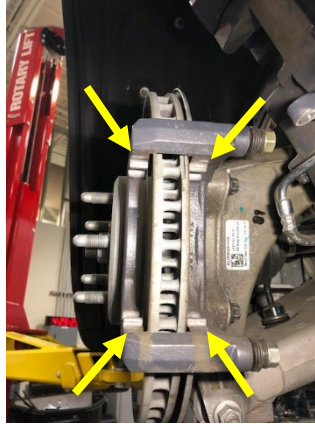

Figure 22 (Abutment flats, Model X shown, other models similar)
29. Use the brush and Tesla-approved brake cleaner to clean the abutment flats, the piston faces, the inner surfaces of the rear LH caliper and rear LH carrier, the abutment springs/clips or shims (as applicable), and the brake pad edges and surfaces that contact the caliper or carrier (as applicable) (Figure 22).